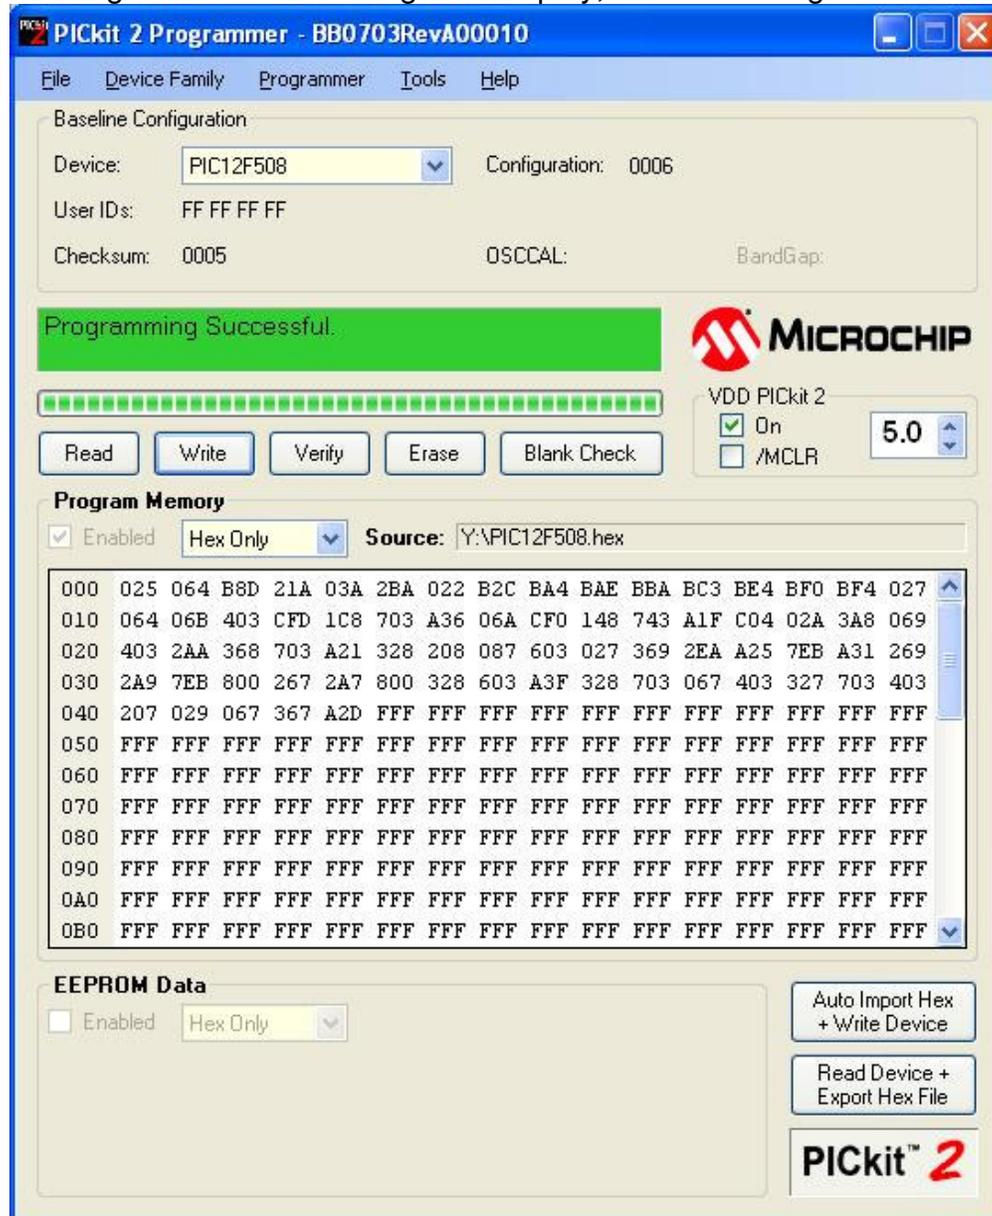

Figure 8 Programming Successfully
- 4. Click "Write" button, the selected hex file will be programmed into the target chip, and "Programming Successful" message will display, as shown in figure 8.